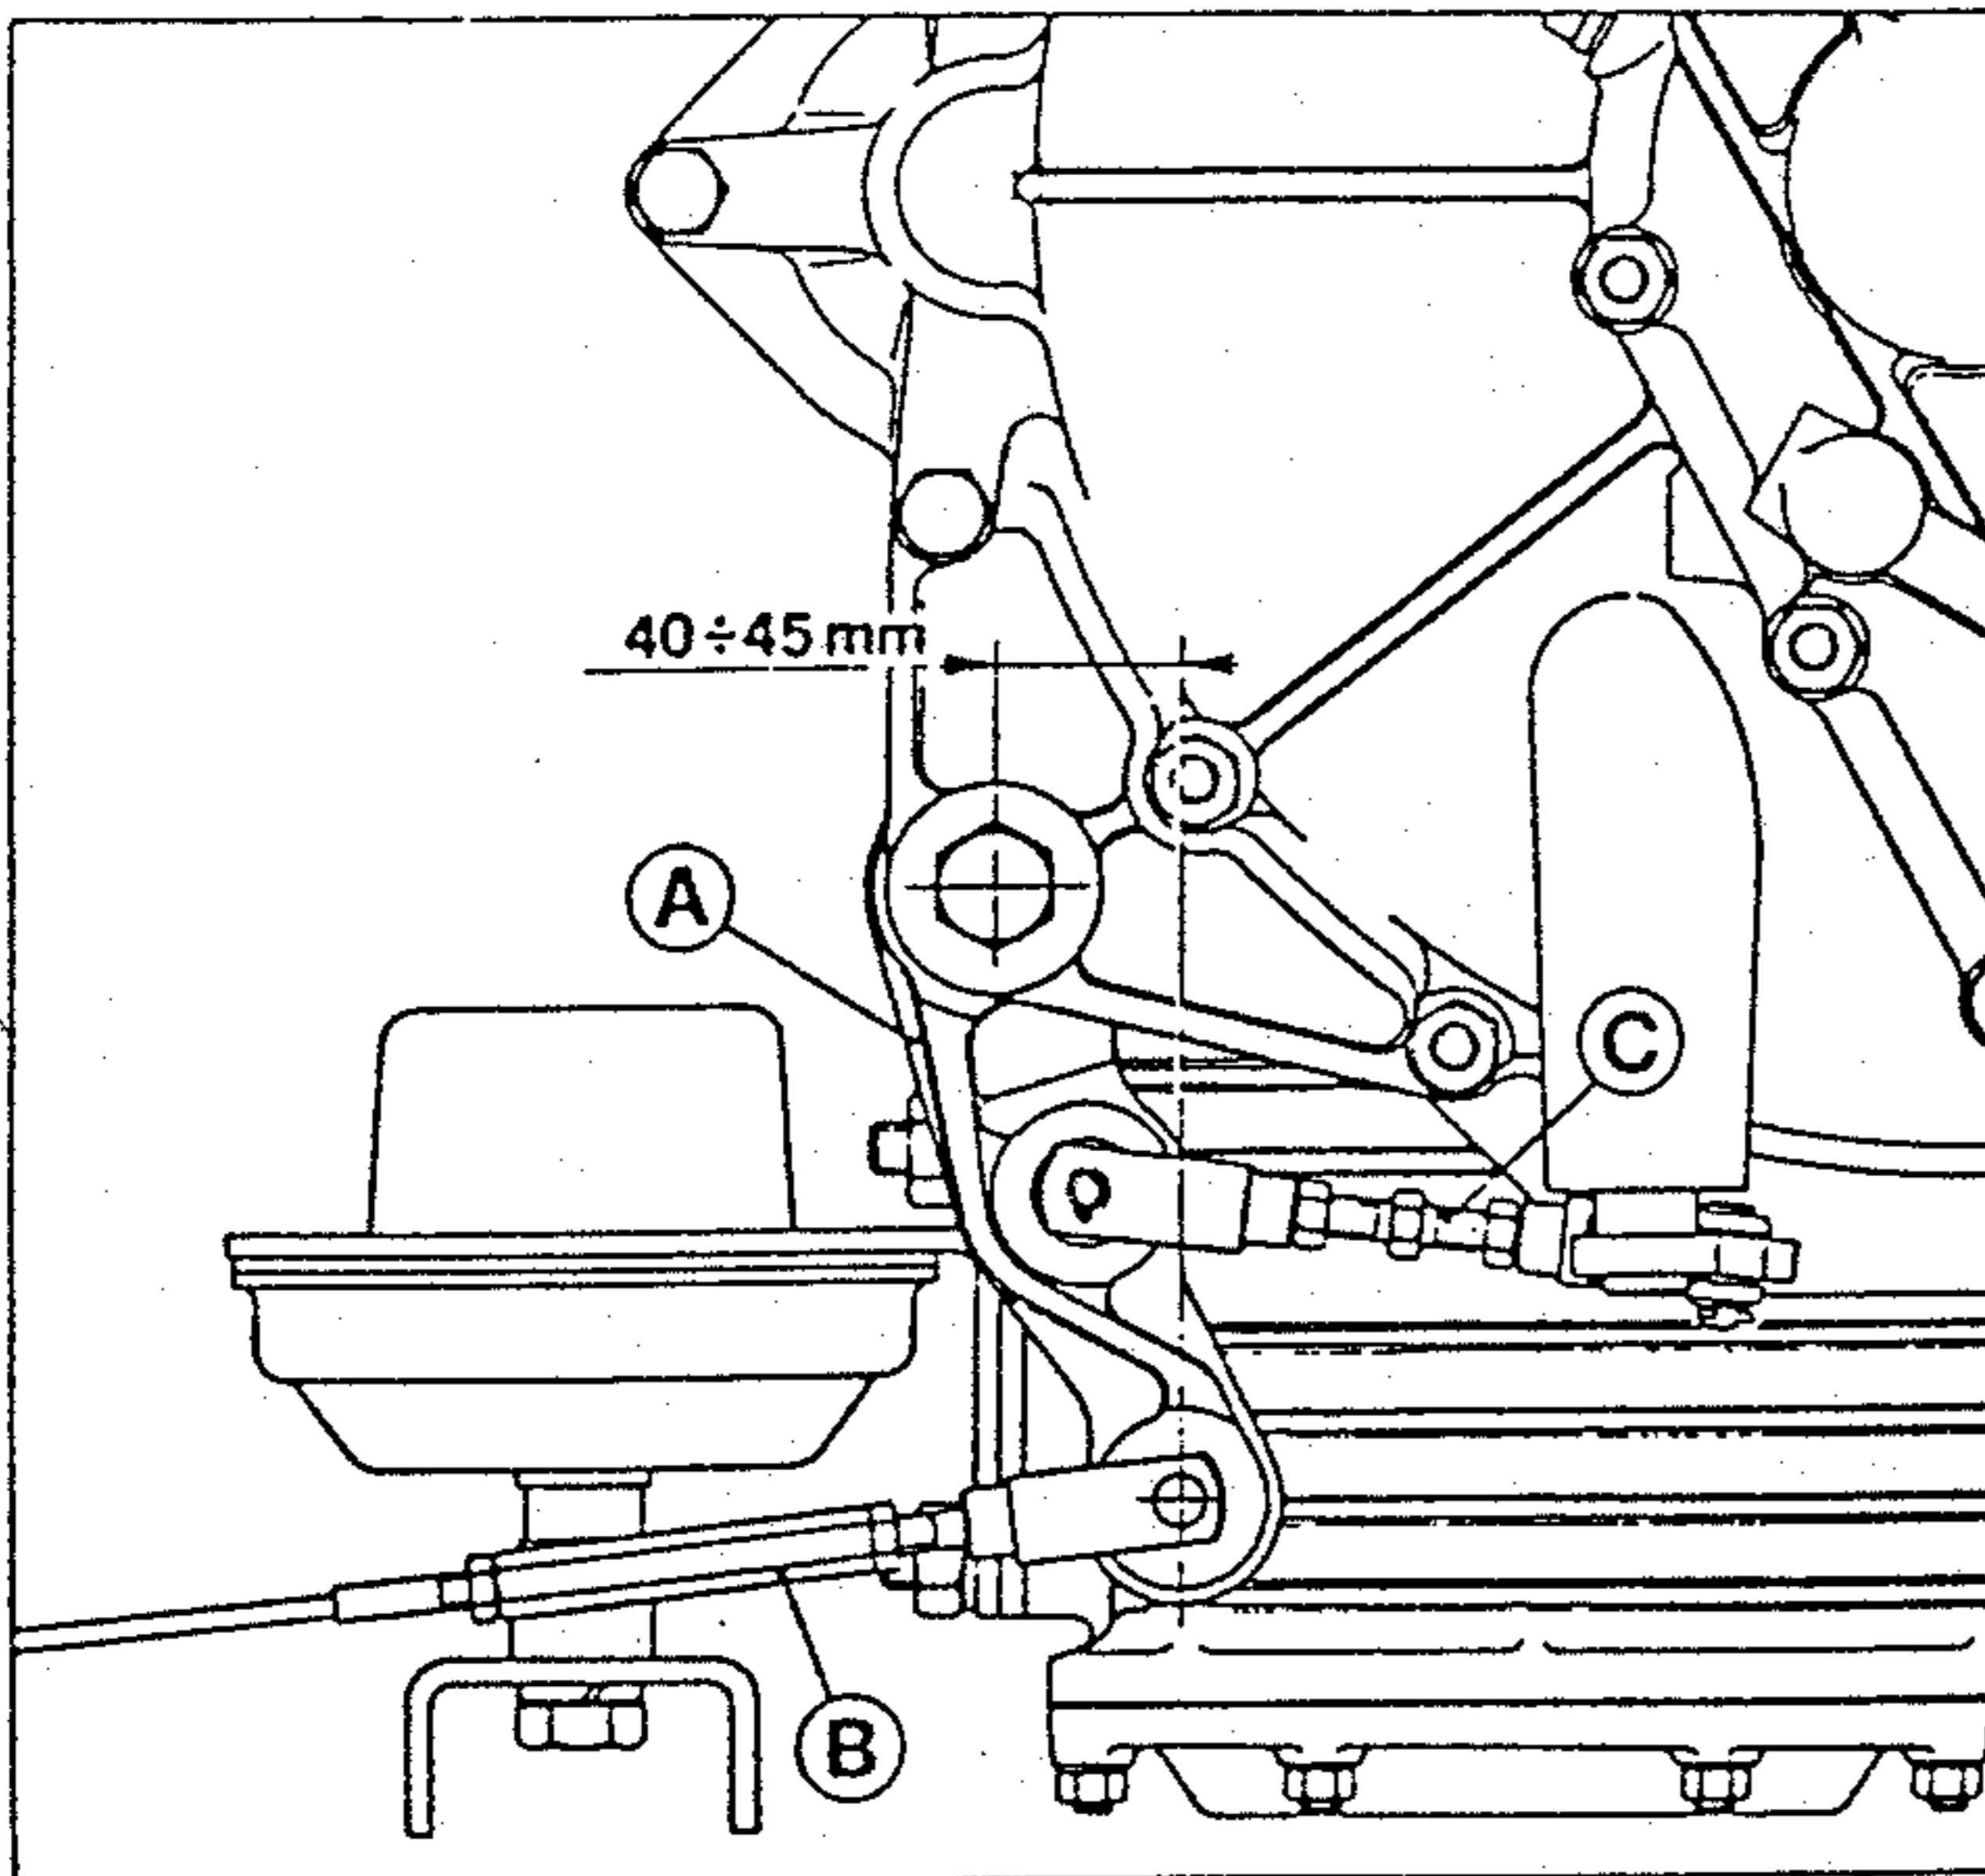

Fig. 2: Clutch Control Linkage on the Clutch Housing.
The clutch linkage positioning as shown in Figure 2 allows the release bearing and the related linkage to move backwards as the clutch disc wears normally, without any interference which would cause slipping of the clutch.
- 3 - Check the alignment of the clutch and brake pedals. If necessary, adjust only the threaded connector B (Fig. 2) in order to achieve the alignment.